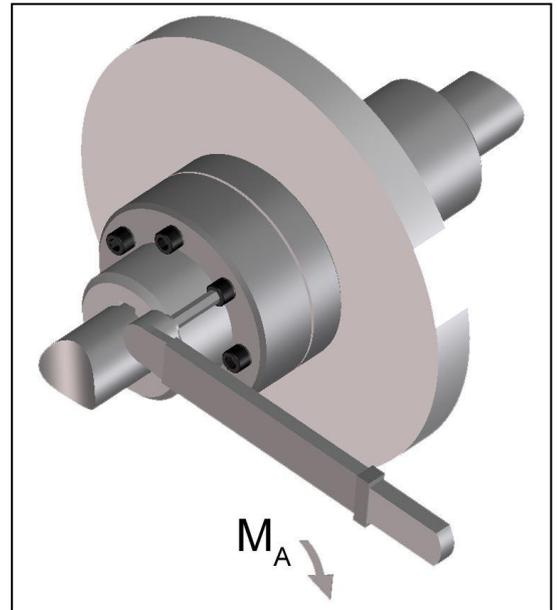

Fig. 10
- Tighten the claw ring threaded joint with the tightening torque M_A stipulated in table 6 (Fig. 10).